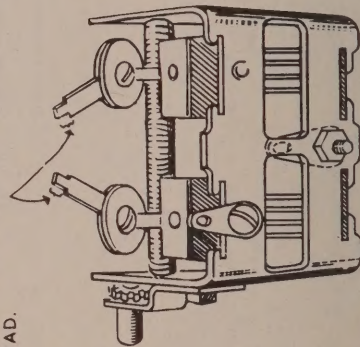

Figure 5
- () Observing figures 5 and 6, loosen the nut holding the disc condenser on the stator lug nearest the slide switch so that the condenser is just loose enough to be rotated.
- () Bend pin 1 down against the condenser lead, being careful that the pin socket lug and lead from the disc condenser do not touch the metal part of the tube socket (NS).
- () In a like manner, prepare the tube socket pin and the other disc condenser to meet pin 2 of socket H (NS). Now check once again to see that adequate clearance has been allowed between these connections and the metal part of the tube socket. Line up the hole in the tube socket pin with the hole in the flat disc condenser lead.